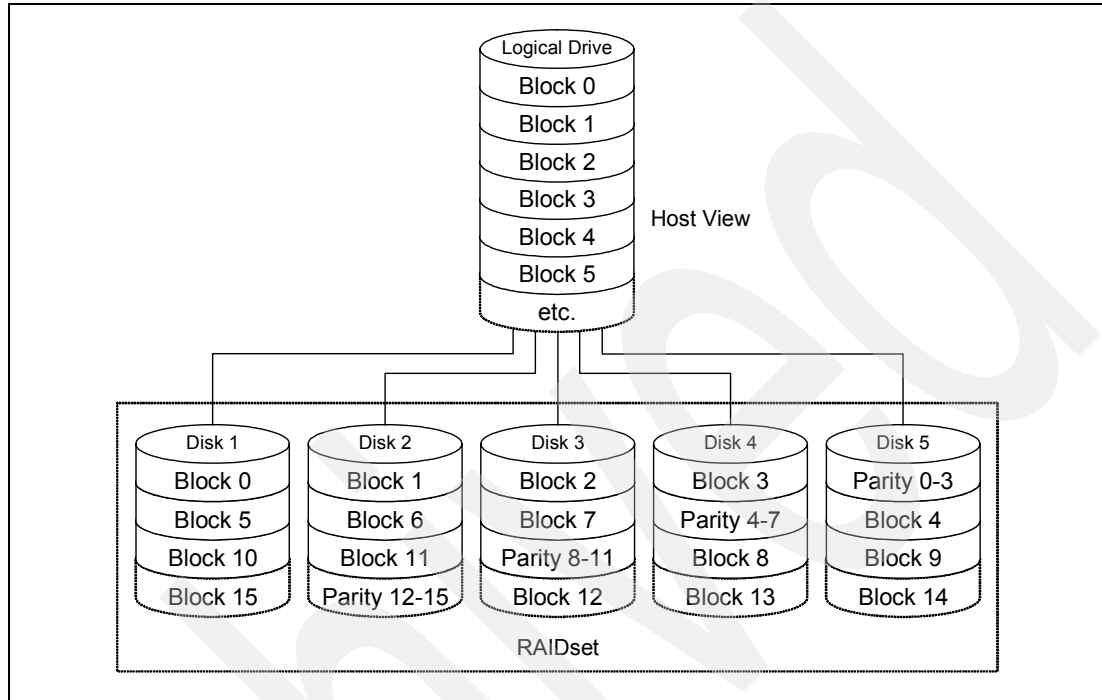

Figure 2-18 RAID-5
- RAID-5: High availability and fewer writes than reads (Figure 2-18)